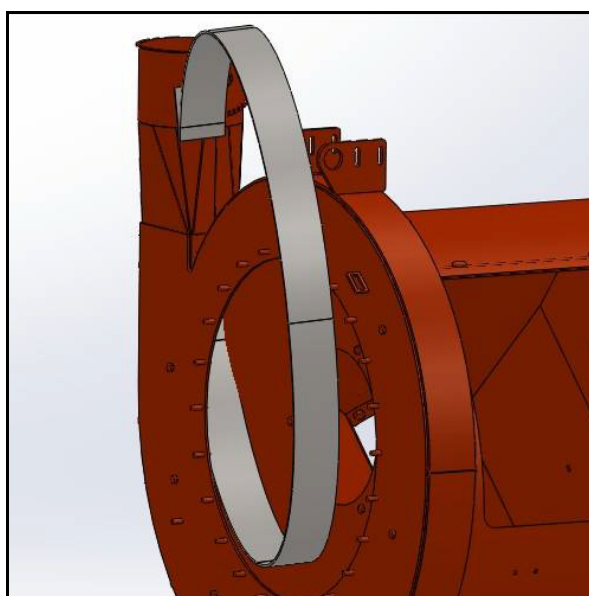

Figure 6.19 Insert Wear Wrap
8. Insert the flat end of the new wear wrap up through exhaust (see Figure 6.19). Be sure to get the end of the wrap to the outside of the spacer pipe. Continue to feed the wear wrap through until you are able to get the "hooked" end down into the rotor housing.